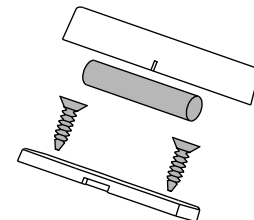

Figure 3: Standard Installation
3. If using screws, use the provided #4 screws to mount the base. See Figure 3. If using double-sided tape, place the tape on the back of the base and place on the surface.